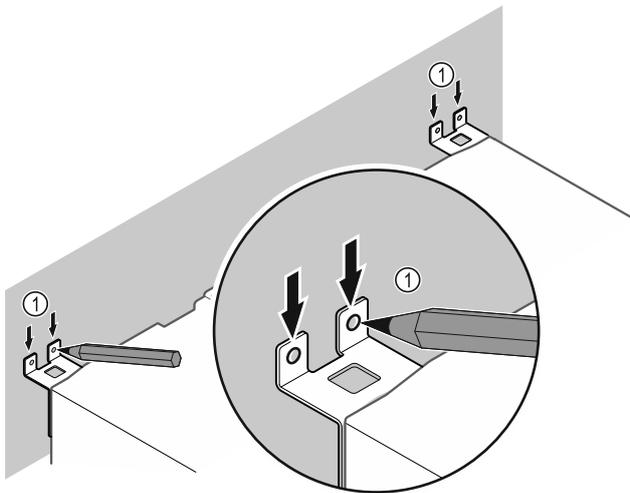

Fig. 53
- ▶ Make markings on the wall Fig. 53 (1).